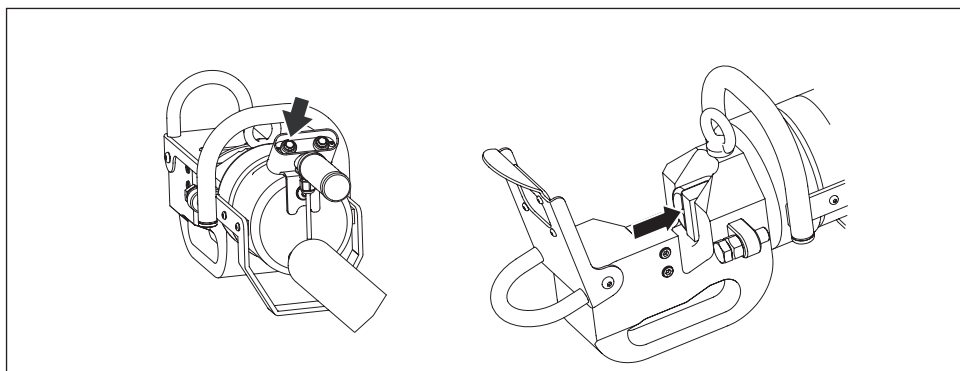

Figure 12, Operation - Retract
- Press and hold the **retract** push button to retract the piston and slide the moving blade backward. See Figure 12.